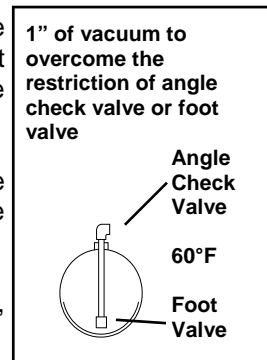

Figure 7
- B. It takes 1 inch of vacuum by the pump to overcome the restriction of an angle check or foot valve. (Not part of the pump, but a necessary part of the installation.) See Figure 7.